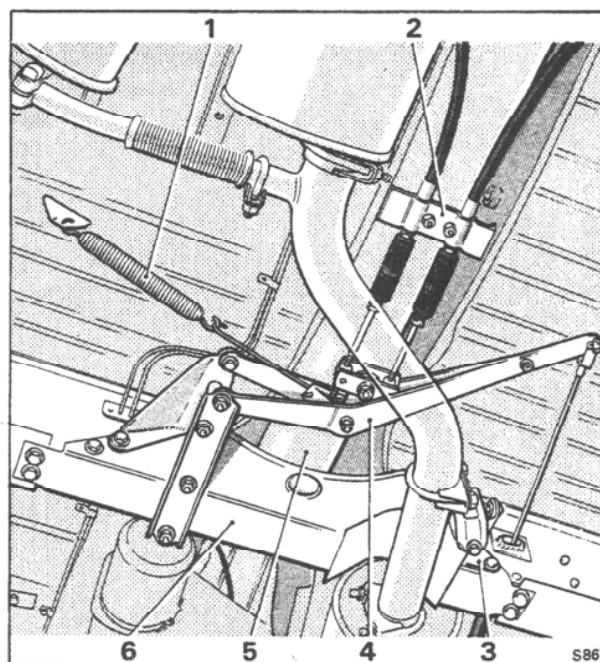

Fig. G40 Parking brake intermediate linkage (Right-hand drive cars)
2. At the intermediate linkage on the underside of the body, unhook the parking brake return spring from the operating lever. Remove the clevis pin attaching the front parking brake cable to the end of the lever (see Fig. G40).